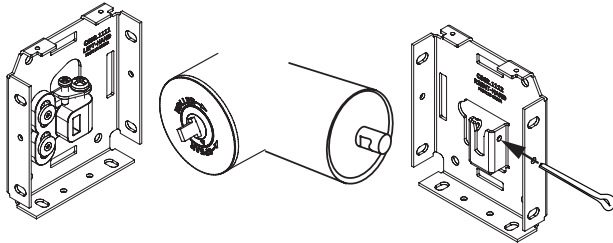

Figure 6
- ⑩ Slide the roller assembly into the brackets, spear-end first (see Fig. 6). The triangular shaped arrow on the end of the device MUST now be pointed up away from the ground when installed (see Fig 4a). Pointing the arrow upward will insure that the mechanism will not “lock” during operation. Raising the hem-bar about 1/4-turn will “un-lock” the device, providing constant tension on the fabric panel. Insure that the hem-bar cannot move (counter-clockwise) around the roller until the installation is complete.
- ⑪ Install the 3/32" diameter x 7/8" long cotter pin through the fabric roller idler bracket to secure the roller (see Fig. 6). Bend one leg of the cotter pin down to lock it into place.
⑫ Carefully pull one side of the draw cable up and around the back-side of the operator roller. Wrap the cable 1.5 revolutions around the tube. Grip the end of the draw cable between the flat washer and roller tube (on the inner side, toward the center of the shade), then tighten the nut. **Do NOT** trim draw cables until after step 18.